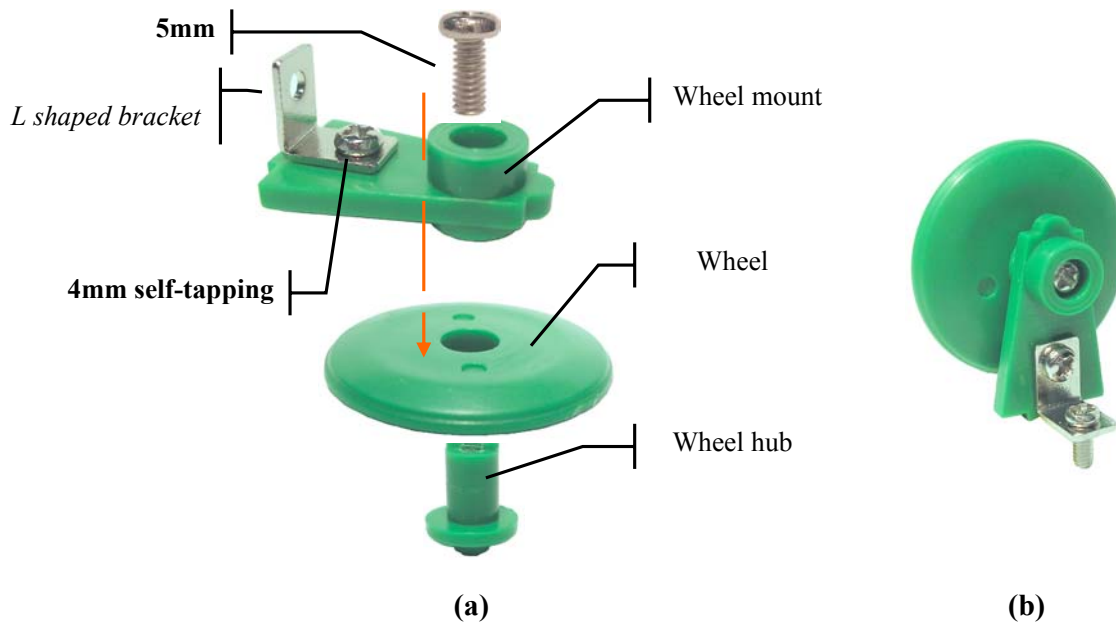

Figure 8 (a) and (b): The small wheel construction and the completed wheel.
2. Put the wheel hub through the wheel and align carefully the wheel mount **notch** with the wheel hub **notch** as shown in Figure 8(a). Fit together with a 5 mm screw.